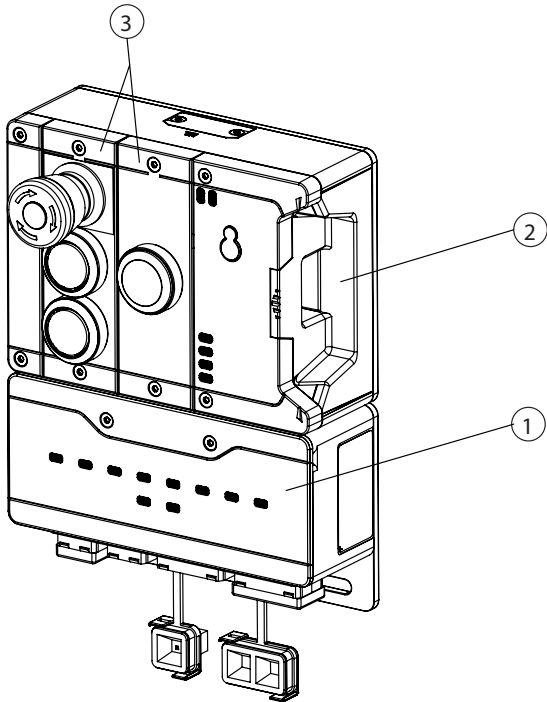

Fig. 1: Example system MGB2 Modular
Modules can in turn contain submodules. *Fig. 1* shows a typical system layout with one bus module MBM (1), one locking module MGB2-L... (2) and the submodules MSM (3) installed in it. A full system can comprise up to 18 modules or submodules.